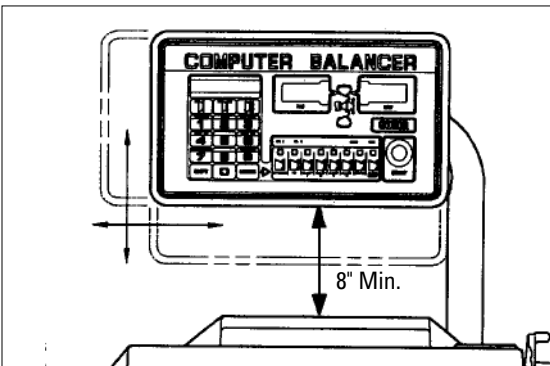

Figure 7 - Control Pod Height
**19.** Loosen the nuts on the support arm retainers. Raise or lower the control pod into the desired position, and tighten the retainer nuts securely. The bottom edge of the pod should be at least 8 inches above the top of the balancer (Figure 7).